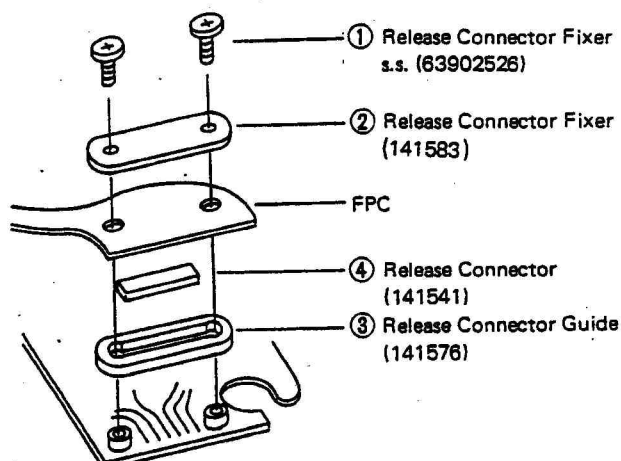

Fig. 9
- d) Remove the respective parts ① ~ ④ shown in (fig. 9) in numerical order.